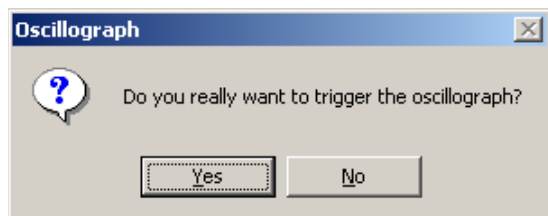

Figure 2-14 Trigger Oscilloscope Confirmation Screen
1. Select **System/Oscilloscope/Trigger**. IPScom® will display the Trigger Oscilloscope confirmation screen (Figure 2-14).